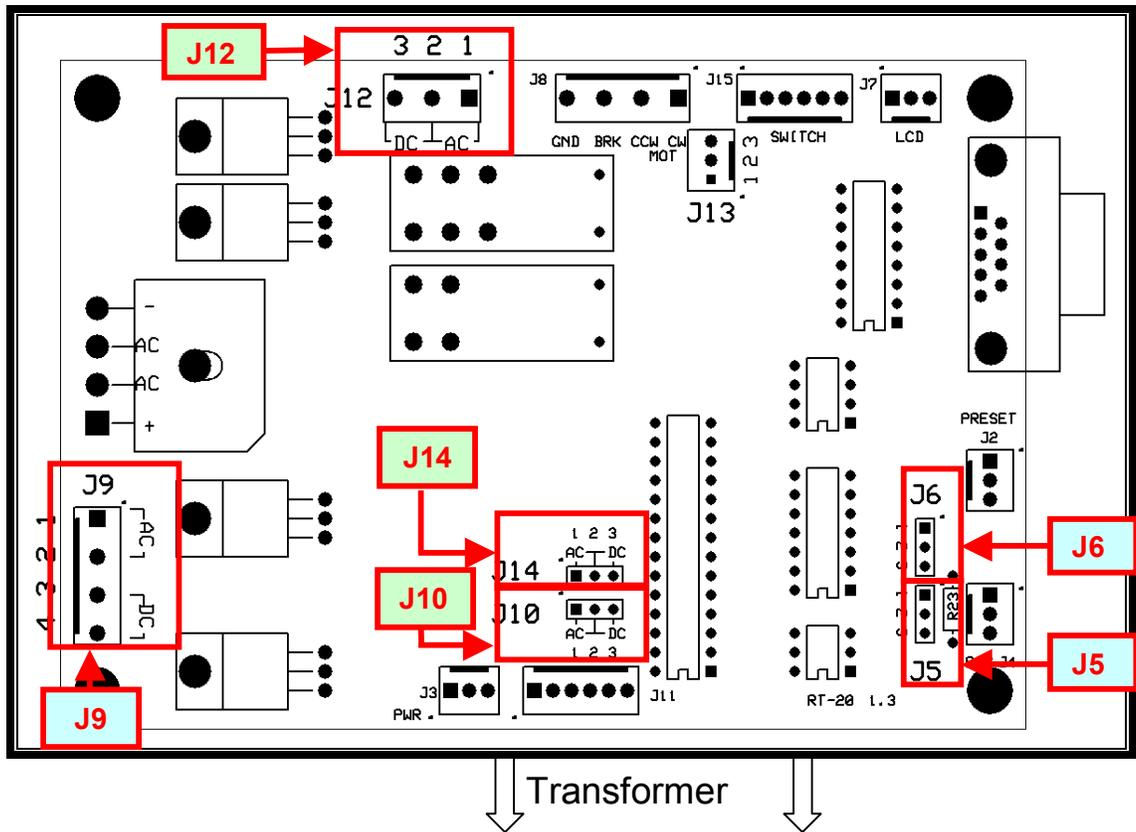

Figure 1. RT-20 PC Board Layout—Locations of Configuration Jumpers
- Familiarize yourself with main PC board as shown in Figure 1. Note the locations of all jumper plugs and wires identified with arrows.